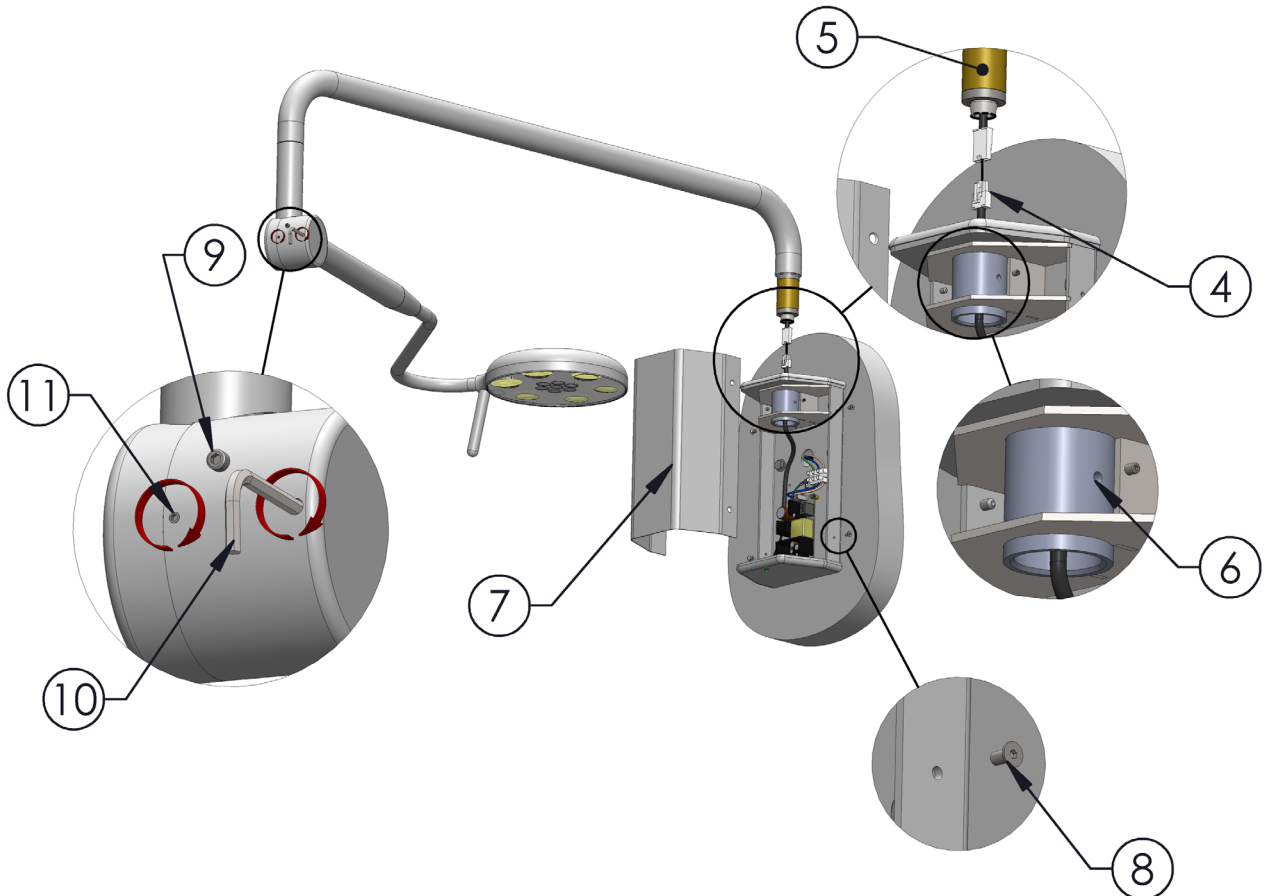

Fig. 18.0
4. Lift Phantom arm into place, and engage the 24V plugs as shown in Fig. 18.0.
5. Insert the arm bearing into the wall unit (taking care to align the threaded holes on the arm side bearing sheath with the corresponding holes on the bearing sheath on the wall unit, as shown in Fig. 18.0.
6. Insert and tighten the two grub screws to complete the fixing of the arm to the wall unit as shown in Fig.18.0.
7. Replace the wall unit cover as shown in Fig. 18.0.
8. Fix in place with the countersunk screws provided, as shown in Fig. 18.0.
9. Unscrew the end cap for access to the spring balance adjustment using a 4mm Allen Key, as shown in Fig. 18.0.
10. Adjust the spring balance: using a 4mm allen key, adjust the screw inside the knuckle. Clockwise/Tightening the screw will cause heavier engagement of the spring - this will improve 'head droop'. Anticlockwise/loosening the spring balance will fix a 'rising head' issue, as shown in Fig 18.0.
11. Friction adjustment: Clockwise/tightening this screw will apply more friction to the arm mechanisms, as shown in Fig. 18.0. The arm will require more force to move, however will not continue to move with movement. This should be set to the staff preference.